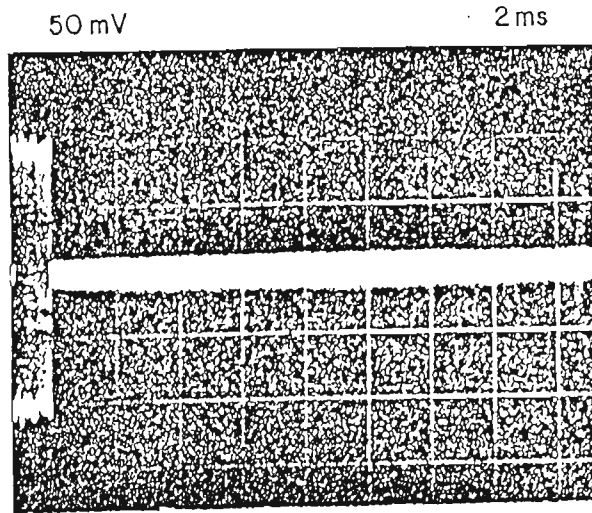

Figure-1
7. Using the exerciser, seek to Track 10 and monitor the upper head on the scope display for an "Index to Data Burst" signal similar to that shown in Figure-1.
11. Using the exerciser, perform successive cycles of Track 10 Seek and Restore operations while turning the Track  $\emptyset$  eccentric counter-clockwise. Examine the scope display for an "Index to Data Burst" signal similar to that shown in Figure-1. Stop when the waveform appears.